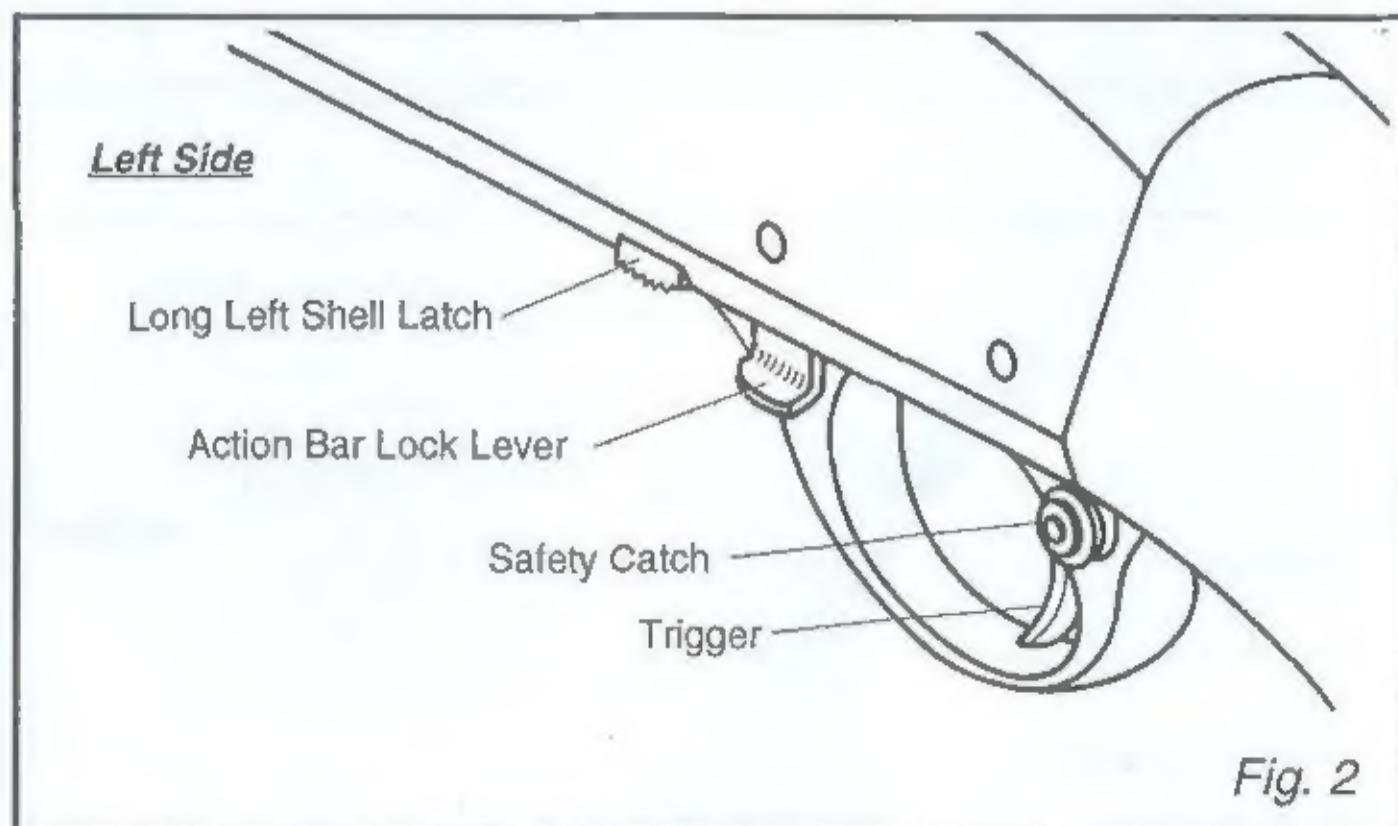

Fig. 2
The safety catch is a button conveniently located behind the trigger (see Fig.2).
The gun will fire when the red band is visible and the trigger is pulled (see Fig. 2).
This part is located on the left side of the trigger plate, in front of the trigger (see Fig. 2).
• LONG LEFT SHELL LATCH (see Fig. 2)
- Press the action bar lock upwards. Fig 2. Pull the fore-end about half-way backwards.